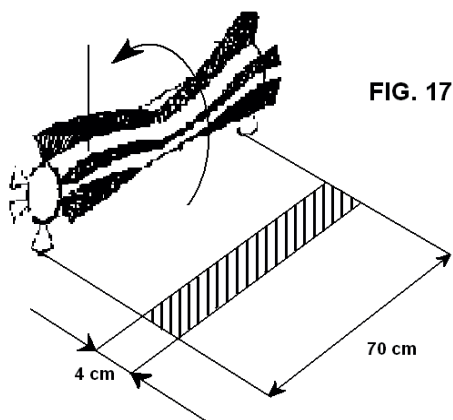

FIG. 17
MOMENTU AŻ ŚLAD SZCZOTKI NA POW. BĘDZIE WIDOCZNY, JAK WIDAĆ NA RYS. 17.
- 4 - ŚCIGAĆ SZCZOTKĘ CENTRALNĄ(PUNKT 113- TABELA 1) PO CZYM ZAŁOŻYĆ NOWĄ ZWRACAJĄC UWAGĘ NA ZŁOŻENIE WŁOSIA(PATRZ RYS.17)ORAZ NA PROWADNICE DWÓCH WSPORNIKÓW SZCZOTKI- PUNKT 128 I 64(TABLICA 1) W MIEJSCU UMIESZCZENIA SZCZOTKI CENTRALNEJ PUNKT 113-TABELA 1